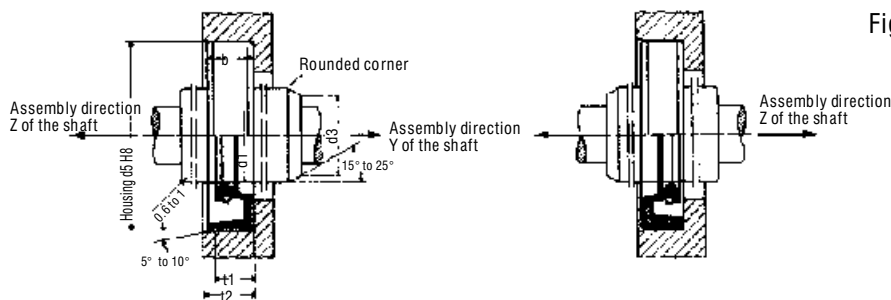

Fig. 1
- Assembling in direction z: radiused 0.6 or 1 mm as per fig. 1 or chambered to the diameter given in table 1